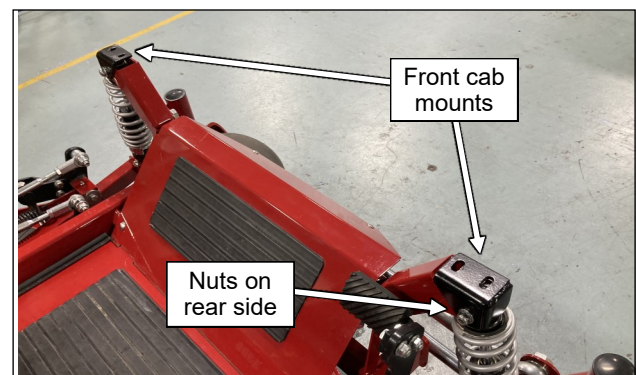

Fig. 3.5 (Install front cab mounts)
- 3.5 See Fig. 3.5. Install the front cab mounts onto the shock tower bolts, on the rear side of the shock towers and re-install the nuts onto the bolts. Align the top surfaces of the mounts parallel to each other and tighten snug. Do not fully torque at this time